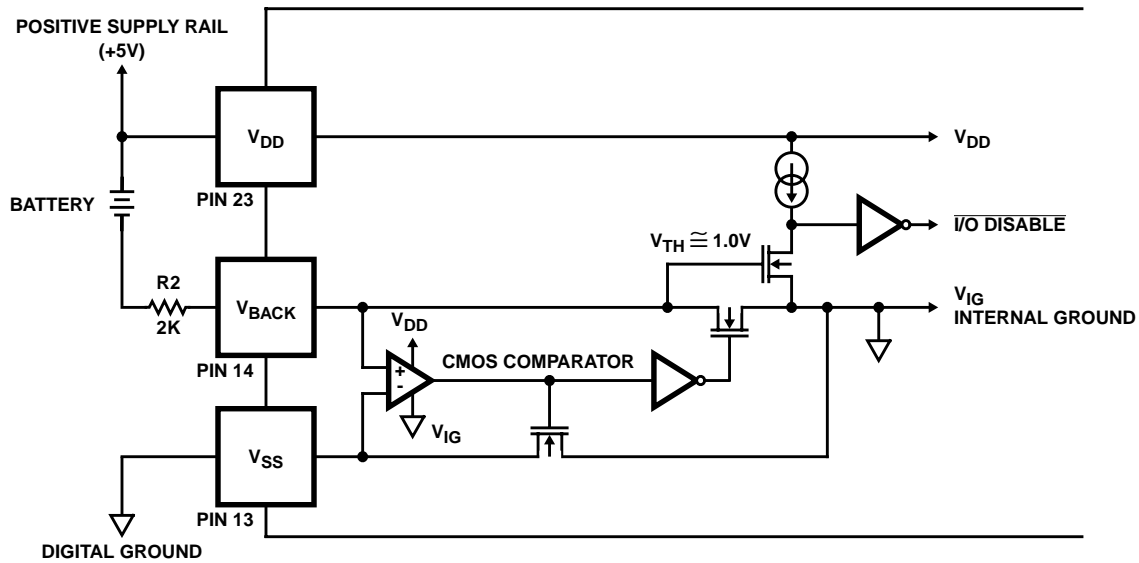

FIGURE 6. SIMPLIFIED ICM7170 BATTERY BACKUP CIRCUIT
The ICM7170 contains an on-chip power down detector that eliminates the need for external components to support the battery-backup switchover function, as shown in Figure 6. Whenever the voltage from the  $V_{SS}$  pin to the  $V_{BACKUP}$  pin is less than approximately 1.0V (the  $V_{TH}$  of the N-channel MOSFET), the data bus I/O buffers in the ICM7170 are automatically disabled and the chip cannot be read or written to. This prevents random data from the microprocessor being written to the clock registers as the power supply is going down.
4. EXTERNAL BATTERY BACKUP - The ICM7170 may be placed on the same power supply as battery-backed up RAM by keeping the ICM7170 in its operational state and having an external circuit switch between system and backup power for the ICM7170 and the RAM. In this case  $V_{BACKUP}$  should be pulled up to  $V_{DD}$  through a 2K resistor. Although the ICM7170 is always "on" in this configuration, its current consumption will typically be less than a microamp greater than that of standby operation at the same supply voltage (See Note 9). Proper consideration must be given to disabling the ICM7170s and the RAMs I/O before system power is removed. This is important because many microprocessors can generate spurious write signals when their supply falls below their specified operating voltage limits. NANDing CS (or WR) with a POWERGOOD signal will create a  $\overline{CS}$  (or  $\overline{WR}$ ) that is only valid when system power is within specifications. The POWERGOOD signal should be generated by an accurate supply monitor such as the ICL7665 under/over voltage detector. An alternate method of disabling the ICM7170's I/O is to pull  $V_{BACKUP}$  down to under a volt above  $V_{SS}$  ( $V_{SS} < V_{BACKUP} < 1.0V$ ). This will cause the ICM7170 to internally disable all I/O. Do not allow  $V_{BACKUP}$  to equal  $V_{SS}$ , since this could cause oscillation of the battery backup comparator (See Figure 6).  $V_{BACKUP} = V_{SS} + 0.5V$  will disable the I/O and provide enough overdrive for the comparator.